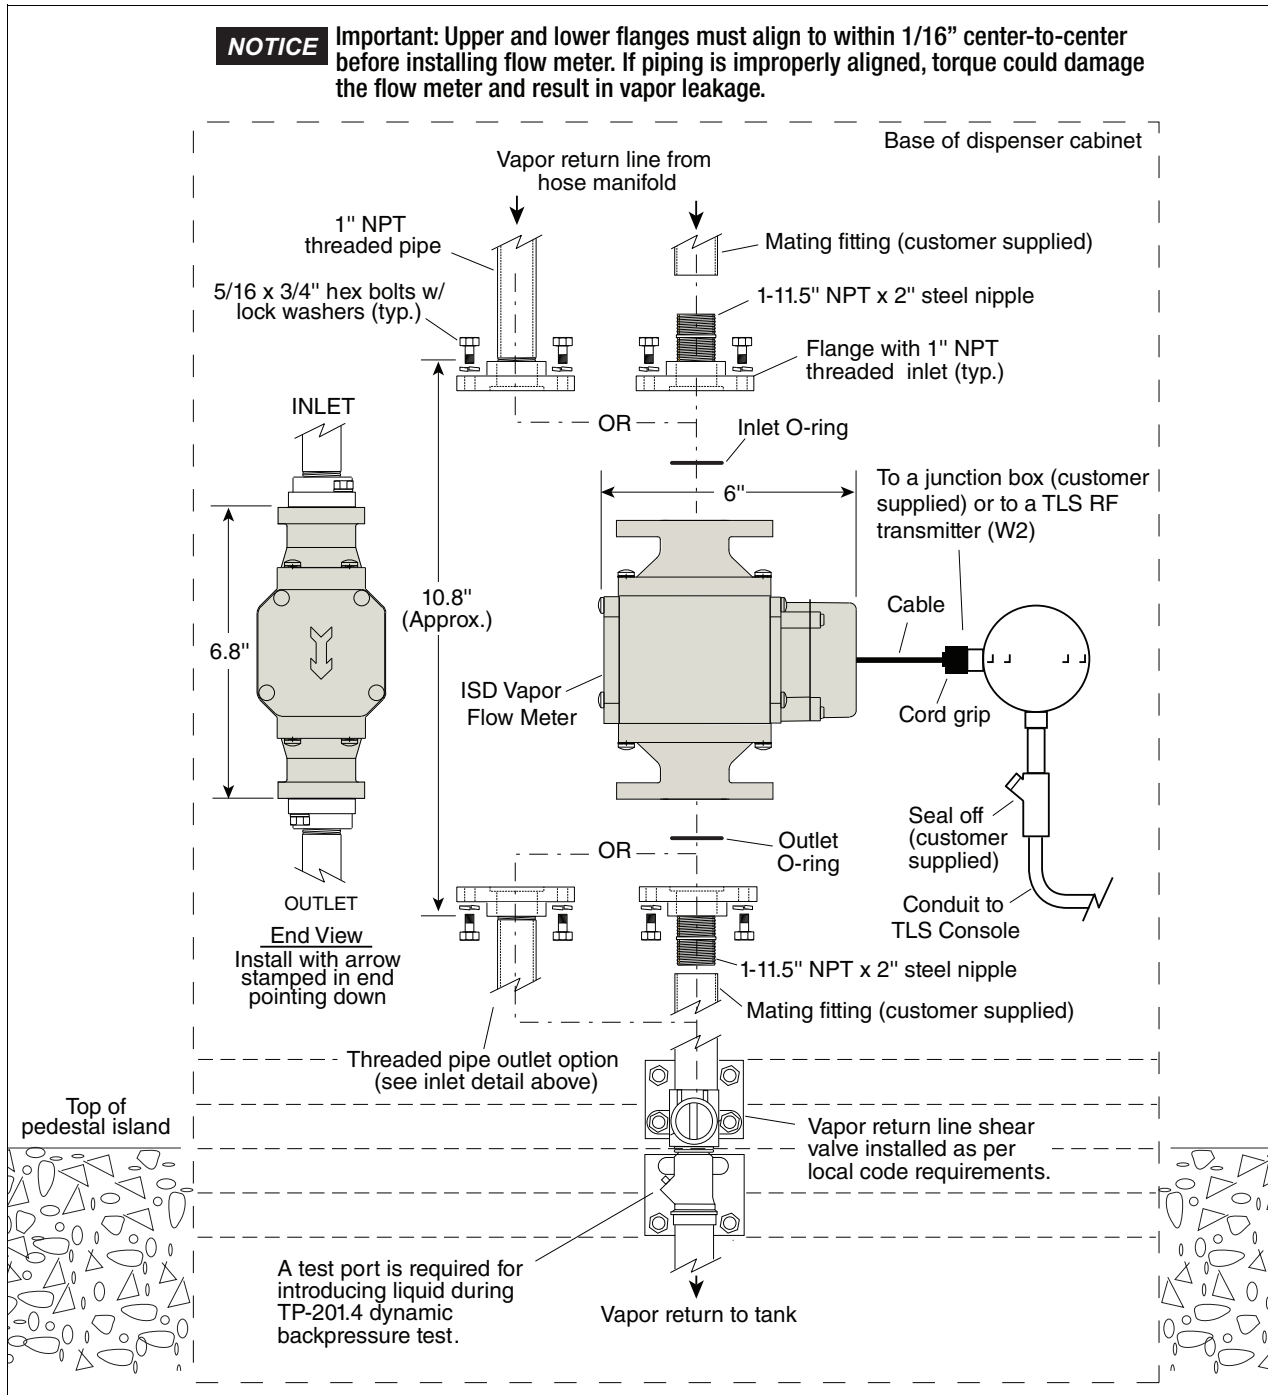

Figure 1. Example Vapor Flow Meter Installation Above Shear Valve
2. Disconnect the factory installed vapor return plumbing from the vapor shear valve (see Figure 1).